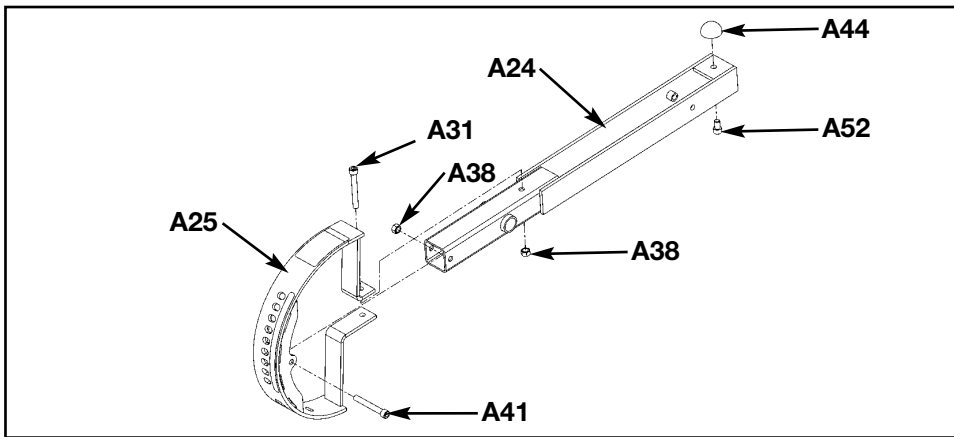

Figure 11
6. Install pressing arm (see steps 6A - 6K, Figures 11 - 13).
- B. Attach detent plate (#A25) to pivot arm (#A24) as shown in Figure 11 (warning decal faces upward), using SHCS .375-16 x 3.00 (#A31), SHCS .375-16 x 2.75 (#A41) and two nylon locknuts (#A38).